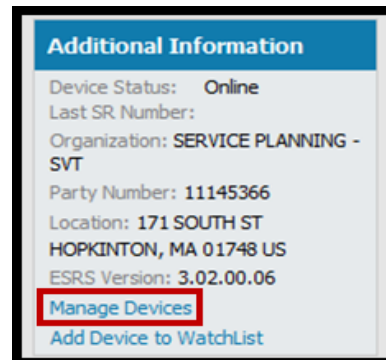

Figure 156 Manage Devices
4. From the SRS Portal serial number page, click **Manage Devices**, as shown in Figure 156 on page 121.